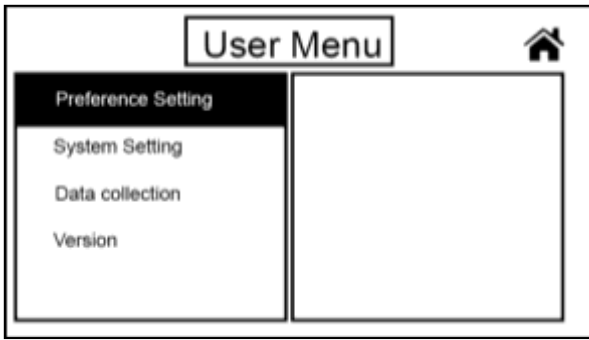
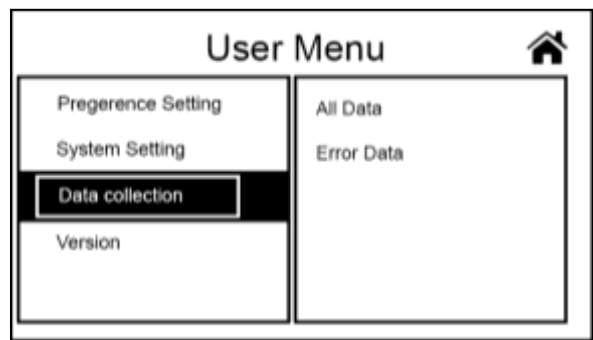

Figure 107
Figure 108
2) Touch the “Menu” key at the lower right corner of the screen to enter the “User Menu” interface, as shown in Figure 107. Then touch the “Data Collection” to enter the Data Collection interface, as shown in Figure 108.